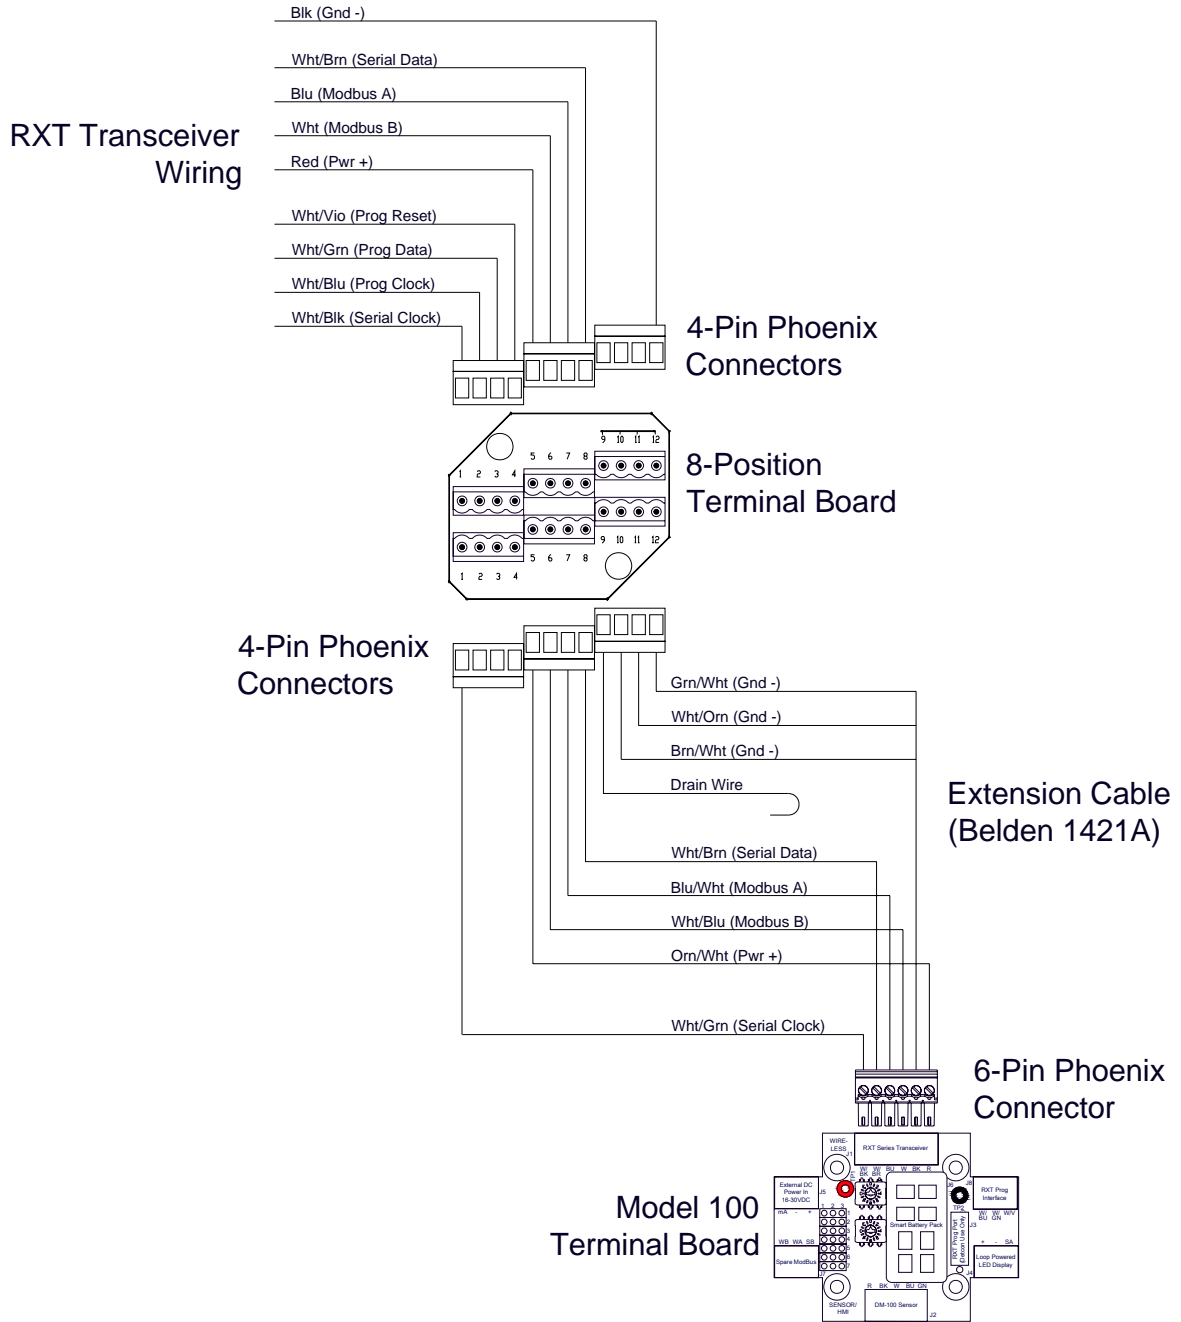

Figure 16 Wiring Diagram for Remote RXT Transceiver Mounting
5. Feed the RXT transceiver wires through the $\frac{3}{4}$ " NPT hole of the elbow connected to the remote J-Box and thread the transceiver into the elbow until tight. Remove all 6 of the 4-pin phoenix connectors from the 8-position terminal board in the remote J-Box and connect the RXT transceiver wires to 3 of the phoenix connectors per the wiring diagram in Figure 16. Reference Table 4 RXT Transceiver Wire Identification for color code identification.
8. Connect the cable wires to the remaining three 4-pin phoenix connectors from step 5 per the wiring diagram in Figure 16. Reference Table 5 Extension Cable Wire Identification for color code identification.
12. Connect the cable wires to the 6-pin phoenix connector from step 3 per the wiring diagram in Figure 16. Reference Table 5 Extension Cable Wire Identification for color code identification.